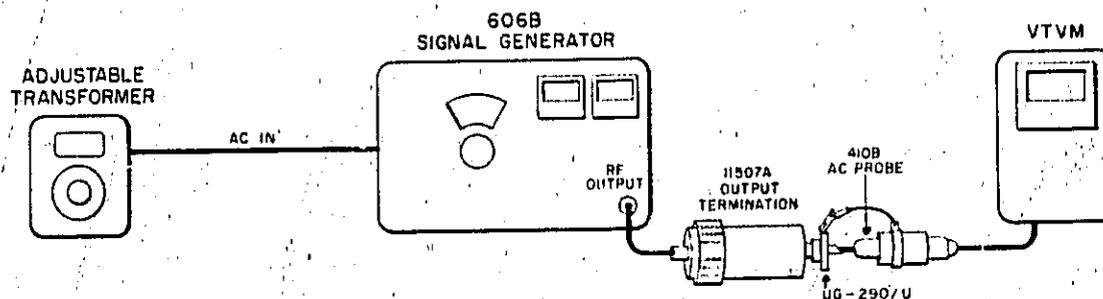

Figure 5-1. RF Output Impedance and RF Frequency Response Test Setup
- a. Connect test equipment as shown in Figure 5-1.
- b. Set line voltage to 115 (230) volts and set VTVM to the 1-volt range and the attenuator to the 0.3 volt range.
- Connect test equipment as shown in Figure 5-1.
- Set line voltage to 115 (230) volts.
- Set line voltage to 103.5 (207) volts and repeat steps d and e.
- Set line voltage to 126.5 (253) volts and repeat steps d and e.